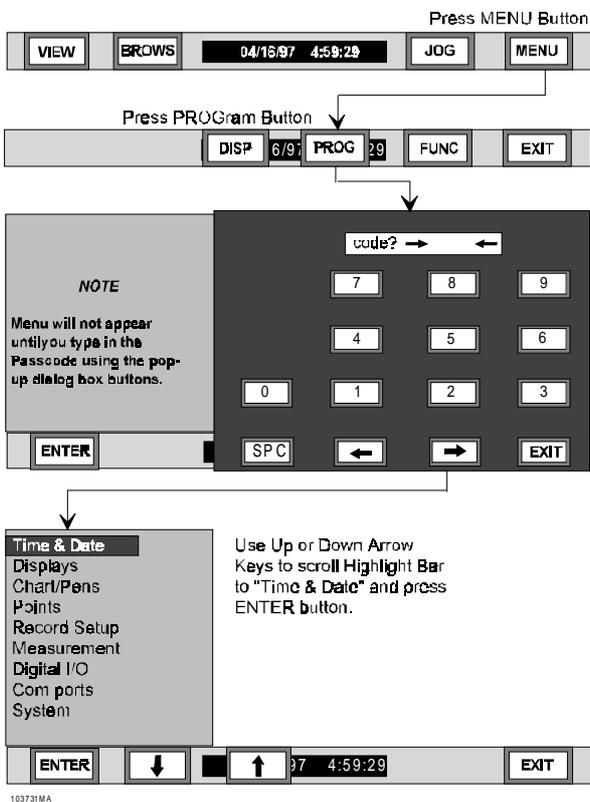

Figure 4-4 Accessing Program Menu Flow Chart
Detailed programming information concerning each of these items follows the Program Menu Flow Chart, Figure 4-3. Step-by-step procedures on how to program parameters for each menu item are also included. Follow the procedures below to access the Program Menu. Figure 4-4, traces the order of menu items in the Program Menu.
4.4.4 Time Format. This menu item allows the user to program either American or European format for the display. American is displayed Month/Day/Year with Temperature as °F and European is displayed Day/Month/Year with Temperature as °C. Follow the procedures below and the programming steps on the Displays Setup Menu Flow Chart, Figure 4-4, to program the Time format.